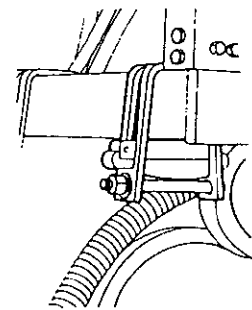

Figure 12
- 5/ Loosen the frame clamp retaining bolts on the coulters assemblies (see figure 12) and adjust so the coulters blades align with the soil openers.
- 2/ Loosen the tine frame clamp retaining bolts. (see figure 12)